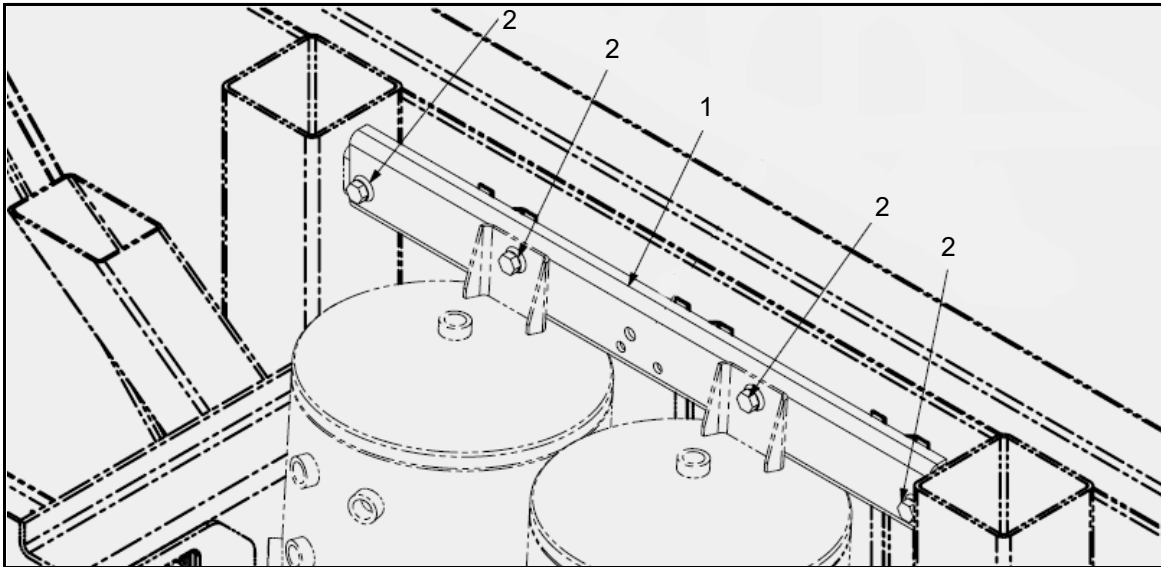

Figure 3. Front axle upper channel mounting installation.
11. Using new mounting hardware, p/n 19-01-1535, orient and mount the new front axle upper channel, 04-19-1476, to the coach frame at the four (4) locations shown in Figure 3. Leave the bolts loose for ease of the lower channel installation, occurring at a later step in this retrofit.
Item	Figure 3 Description